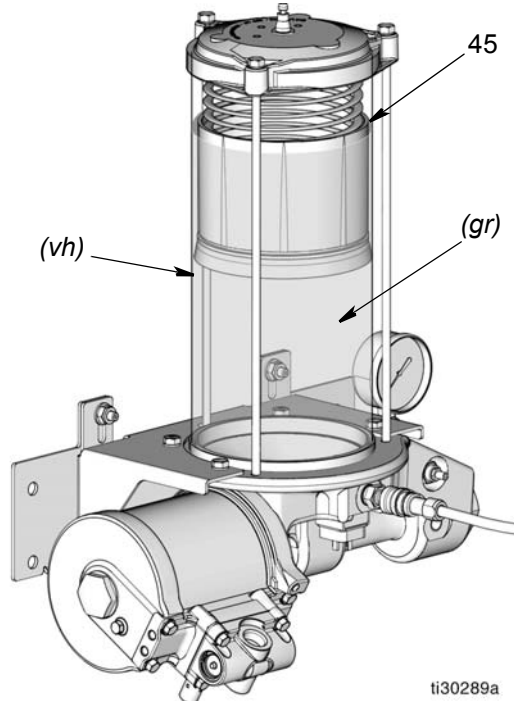

FIG. 9
- Slowly dispense grease from the fill pump into the reservoir until the grease in the reservoir lifts the follower plate (45) above the reservoir vent hole (vh) and air is expended from under the follower plate (FIG. 9). A small amount of grease may come out of the vent hole at this time.
NOTE: The vent hole (vh) is located toward the back right side of the reservoir and cannot be seen in FIG. 9. The approximate location of the vent hole is identified as vh in the illustration.